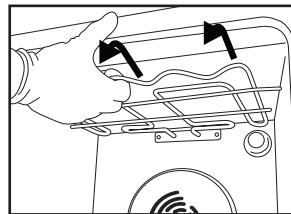
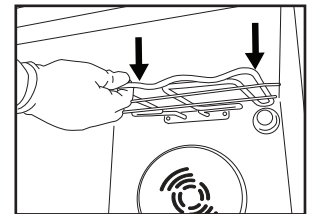

Fig. 1
Fig. 2
2. Pull the heating element out a little (Fig. 1) and lower it (Fig. 2).
There are 2 spacers on the rear panel of the appliance (see Fig 1) intended to prevent the appliance trapping the flexible hose. If the flexible hose and its rigid pipework connections are recessed, the spacers can be removed by the installer to allow the appliance to be pushed back further in the aperture. This can only be done if the requirements of BS 6172:2010 can still be met.